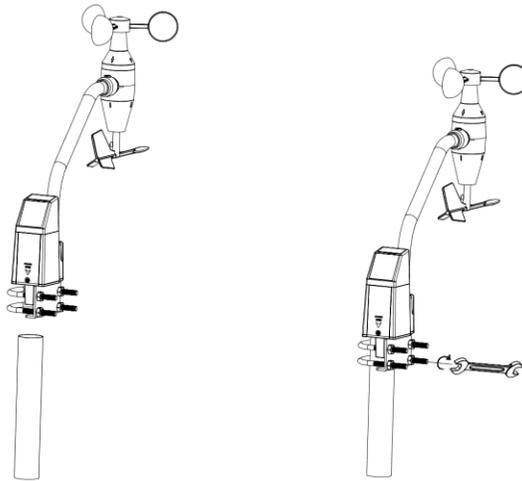

Figure 11: Sensor package mounting diagram
- You can attach a pole to a permanent structure and then attach the sensor package to it (see Figure 11).